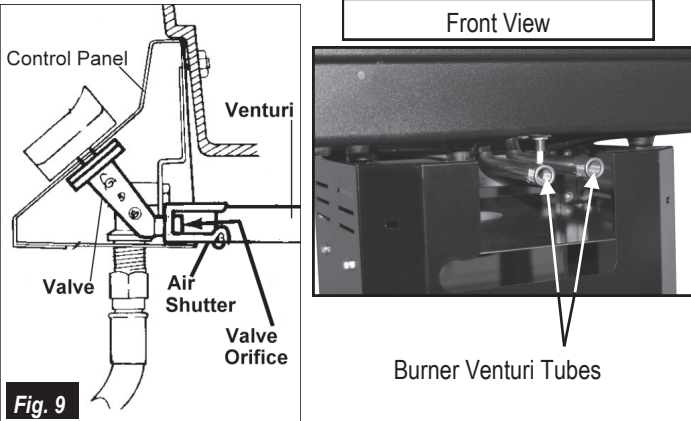

Fig. 9
2. Leave the (2) nuts holding the heat shield on, to serve as spacer nuts.
3. Make sure the valve orifices on the control panel aligns with the burner venturi correctly and that the venturi tubes go over the valve orifices at least  $\frac{1}{4}$ " to  $\frac{1}{2}$ " (see Fig. 9 page 10).
## D. Orifice Engagement (Fig. 9)